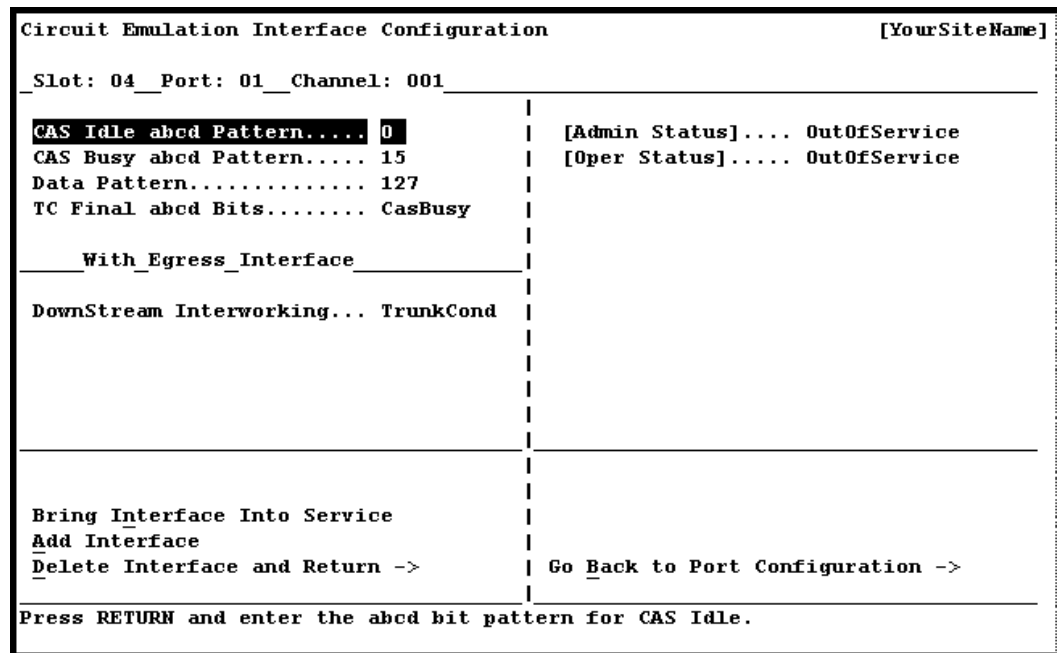

Figure 4-1. Circuit Emulation Interface Configuration Window
Note: To display the windows for configuring a circuit emulation interface (see Figure 4-1), you must have completed the following three steps in a previous procedure:
- Selected the **Configure Interface** command. The Circuit Emulation Interface Configuration window (see Figure 4-1) is displayed. Table 1-1 describes the commands for the window. Table 4-1 describes the fields on the window.